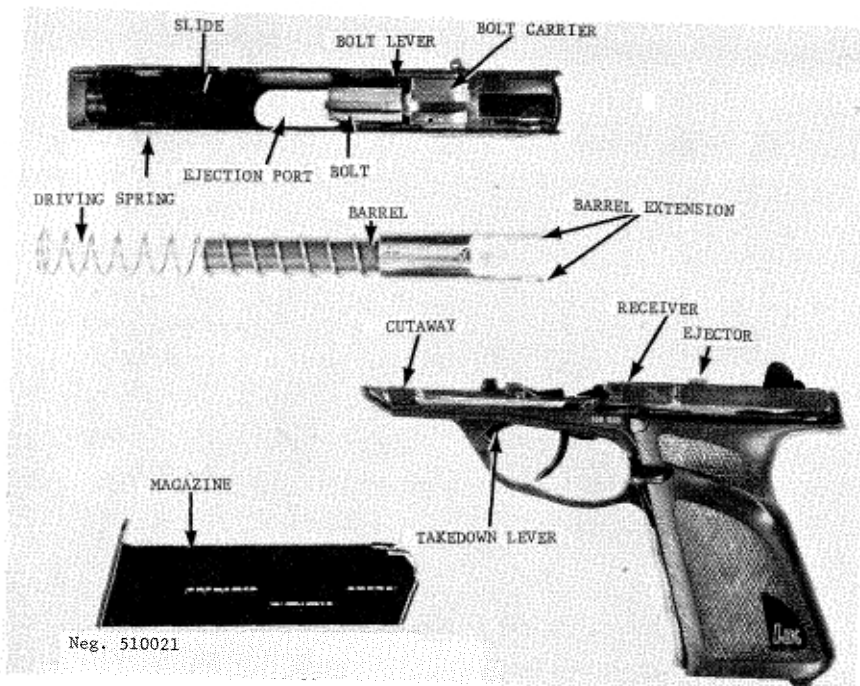
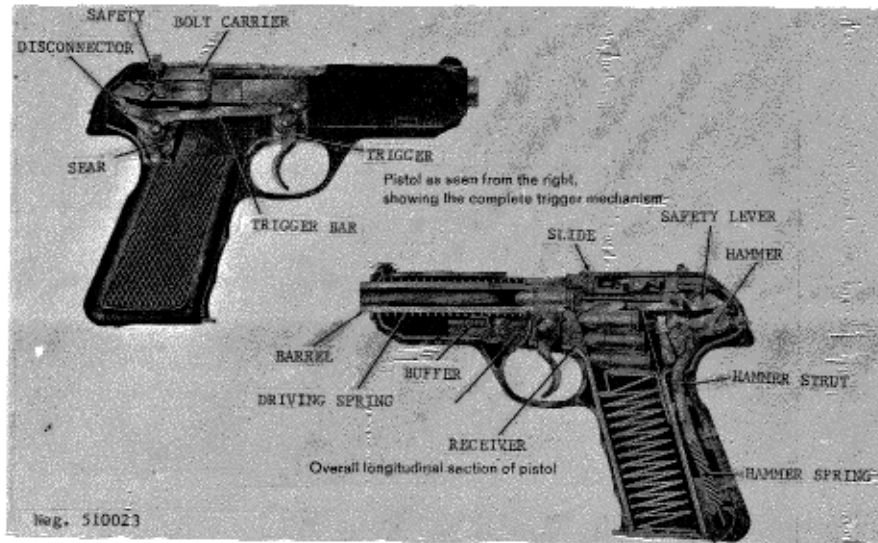

Figure 22. P9 disassembled.
Figure 24. P9 trigger mechanism functioning.
c. Normally no further disassembly is required; however, if desired, the bolt (fig 22) can be removed from the slide. To do so,
insert one of the barrel extensions into the slide, just forward of the bolt carrier (fig 22), and press the barrel down to release the bolt lever (fig 22). Press the bolt forward, off the bolt carrier. No further disassembly should be attempted.
d. To reassemble the pistol, place the bolt (if disassembled) into the slide with its extractor or rounded side toward the ejection port (fig 22) and start it onto the bolt carrier. Use the barrel extension to depress the bolt lever and push the bolt fully onto the bolt carrier. Remove the barrel extension and push the bolt forward until it clicks into place.
e. Insert the barrel and driving spring into the slide (driving spring first) and insure that the spring is seated in its recess around the inner front of the slide. Rotate the barrel so that its rounded side is toward the ejection port (fig 22); then press the barrel forward into the slide, against the force of the driving spring, until the barrel seats into the slide. Ease the barrel rearward so that the extensions fit alongside the bolt.
f. Place the slide on the receiver so that the indentations in the slide are aligned with the cutaways (fig 22) in the receiver. Press the slide down on the receiver, then pull the slide rearward and release it. Clear the pistol as described in paragraph 33g.
continues and, when the rollers are fully into the bolt, the bolt and slide are then unlocked from the barrel and can move rearward. The bolt lever snaps into the bolt and holds the bolt forward in its unlocked position. The delay occasioned by the rollers' retraction allows gas pressure to drop to a safe level. The rearward thrust of the case has given enough momentum to the slide to drive it fully rearward. This rearward movement compresses the driving spring and rocks the hammer back (fig 24). The extractor holds the fired cartridge case against the bolt until the cartridge case strikes the ejector (fig 22); the case is then expelled out through the ejection port. The rearward movement stops when the inside front of the slide strikes the buffer; the driving spring then drives the slide forward. The feed rib on the bolt drives the top cartridge out of the magazine and into the
b. When the trigger is pressed, the trigger moves the trigger bar forward (fig 24). The trigger bar moves the sear from engagement with the hammer, which, under force of the hammer spring, swings forward and strikes the firing pin, firing the cartridge. As the slide recoils upon firing, the disconnector (fig 24) is forced out of its recess in the slide, and the front end of the disconnector moves upward. This upward movement allows the trigger bar spring to move the rear of the trigger bar up, out of engagement with the sear. The released sear snaps back against the hammer. When the slide counterrecoils, the sear engages the hammer and holds it cocked. Upon completion of the slide's forward movement, the disconnector moves back into its recess in
f. The safety, when applied, causes the safety lever (fig 24) to move and force the disconnecter out of its recess in the slide. The front end of the disconnecter rises and allows the trigger bar to rise out of engagement with the sear. When the safety is rotated to the fire position, the safety lever allows the disconnecter to move into its recess and reestablish the connection between the trigger bar and sear.